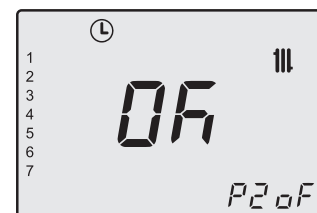

Fig. 2.16
Once the scheduling is set to 00:00, confirm with key 12 and the related automatic off time bracket will be set to 00:00 (Fig. 2.16).
Press key 17 briefly to save the values entered and the display will indicate **OK** to confirm (Fig. 2.16).